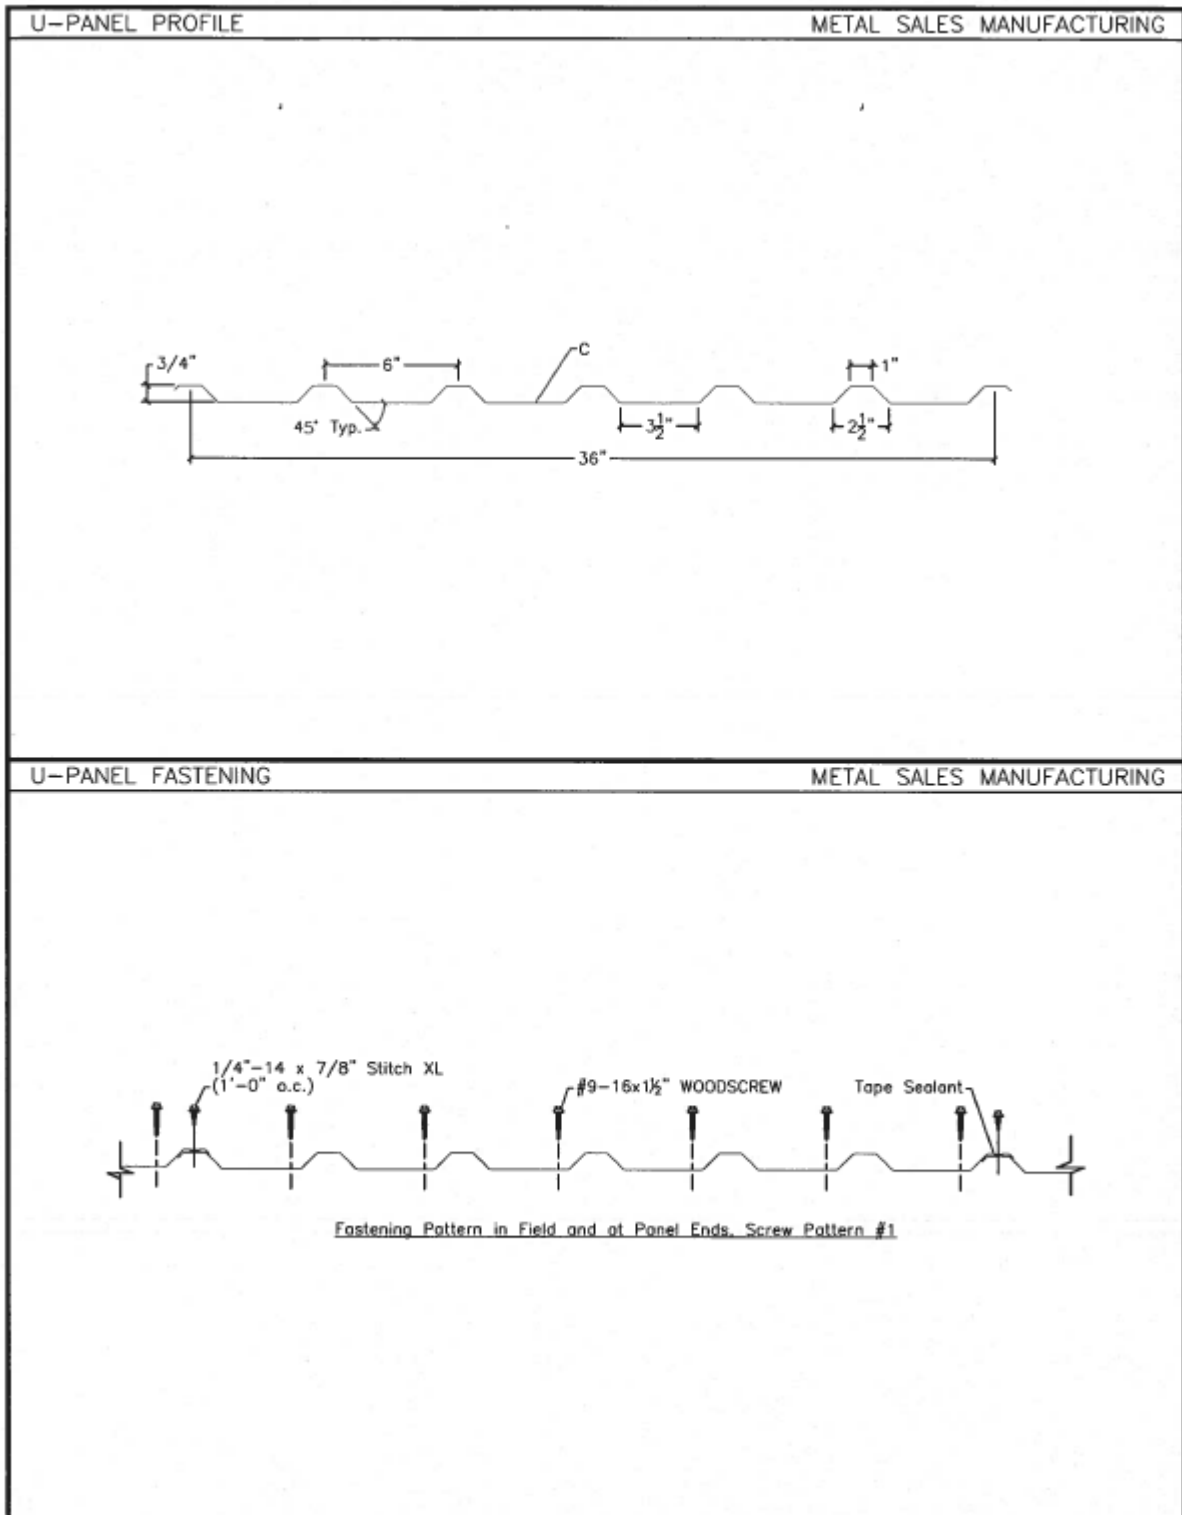

Figure 1. U-Panel and PBU-Panel Screw Pattern for Table 1
**Attachment of Metal Roof Panels to Wood Deck:** The roof panels must be secured to the wood deck in accordance with Table 1 with Atlas No. 10-14 x 1-1/2" hex head wood screws with 7/16" diameter seal washer (No. 10-14 x 1-1/2" wood screws) to minimum nominal 15/32" plywood roof decks. Refer to Figure 1. The panels must be fastened at the panel ends in accordance with Screw Pattern No. 1 with the No. 10-14 x 1-1/2" wood screws as shown in Figure 1. The panels must be fastened along the rake at 6" on center with the No. 10-14 x 1-1/2" wood screws. The panel side laps must be fastened with 1/4"-14 x 7/8" hex head self-driller screws with 9/16" diameter integral washer (1/4"-14 x 7/8" stitch screws) spaced 12" on center. The fasteners must be corrosion